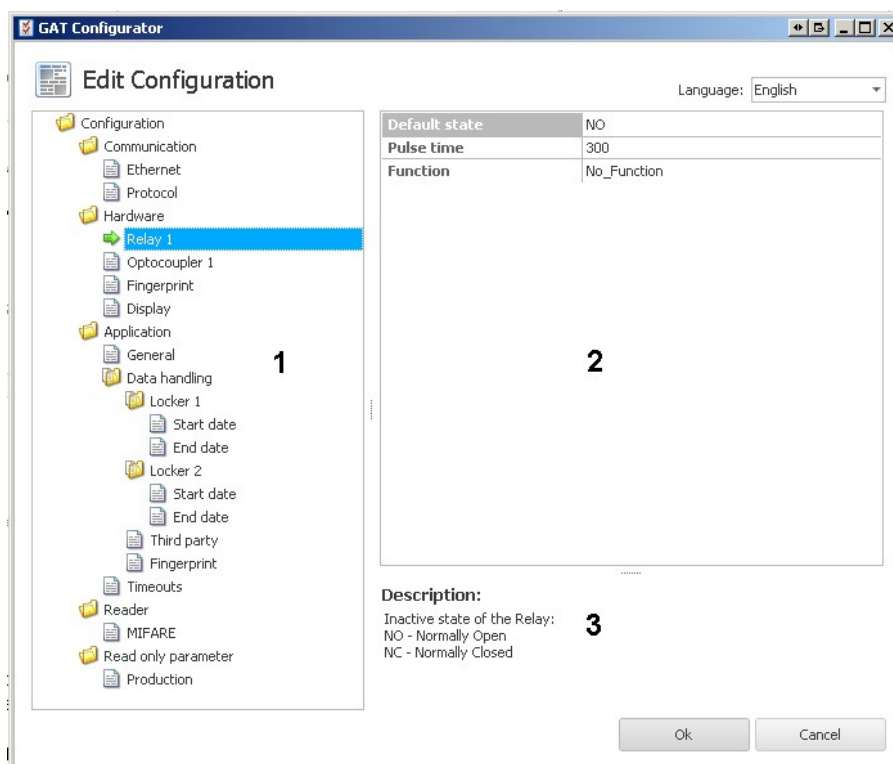

Figure 4.15 - Configuration window
Click on the "(2) Configure" button to view and adjust the configuration settings of the GAT Access 6600. The existing configuration is uploaded from the terminal and displayed in the configuration window. See Figure 4.15 in the previous section for more information on the configuration window.